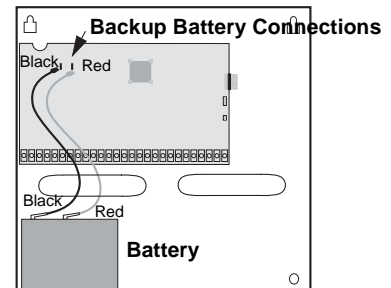

Figure 37. Connecting the Backup Battery to the Panel
1. Connect the red and black battery leads (included with panel) to the lugs located on the panel (see Figure 37).
2. Connect the other ends of the battery leads to the battery terminals (see Figure 37).